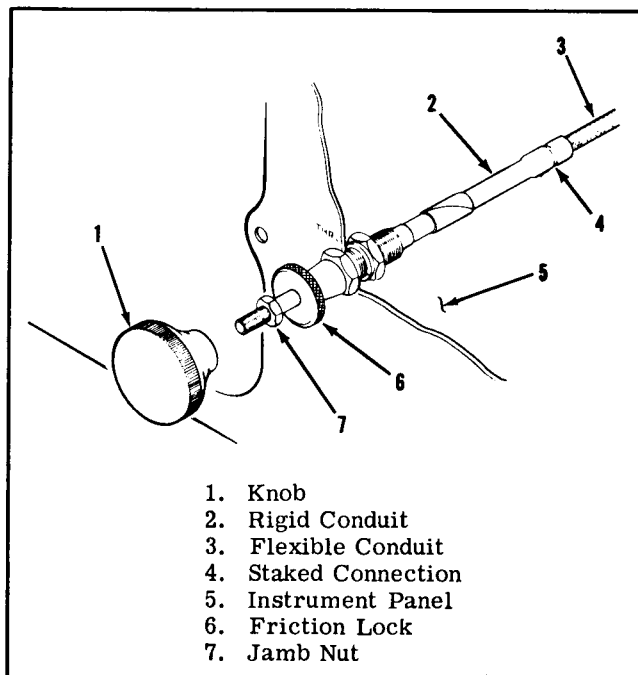

Figure 12-3. Throttle Control
Before rigging the throttle control on aircraft with the type control shown in figure 12-3, check that staked connection (4) between rigid conduit (2) and flexible conduit (3) is secure. If any indications of looseness or breakage is apparent, replace the throttle control before continuing.
- b. Screw jamb nut (7) all the way down (clockwise) and reinstall the throttle knob. Screw the knob securely against the jamb nut. Do NOT back the jamb nut out. This will prevent bottoming and possible damage to the stacked connection.
- c. Disconnect the throttle control at the engine, push the control in until jamb nut hits friction lock (6) while the friction lock is loose, then pull the control out approximately 1/8 inch for cushion.
- d. Tighten friction lock (6), being careful not to change the position of the throttle.